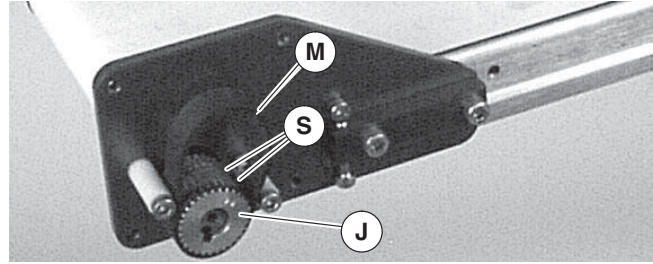

Figure 6
7. Install driven pulley (Figure 6, item J). Tighten two (2) set screws to 33 in-lb (3.7 Nm).
8. Place timing belt (Figure 6, item M) over driven pulley (J) and between belt flanges (S).